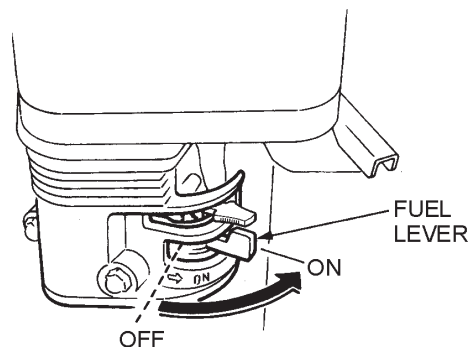

Figure 16. Engine Fuel Valve Lever
3. Place the **fuel valve lever** (Figure 16) to the "ON" position.